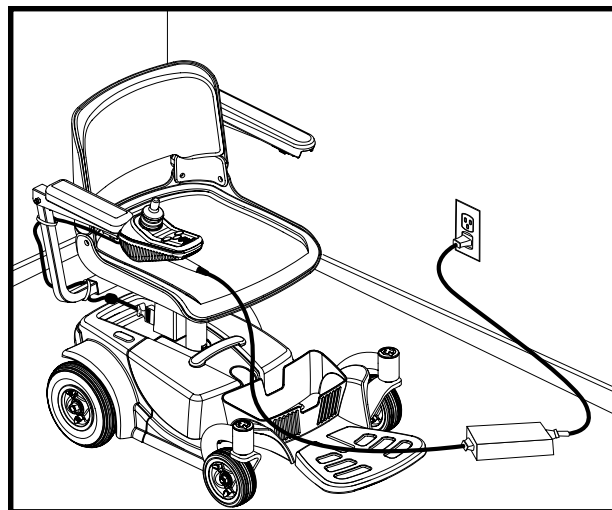

Figure 23. Battery Charging (Battery Box Installed)
1. Position your Z-Chair next to a standard wall outlet. See figure 23.
3. Plug the off-board charger into the off-board charger socket on the controller. See figure 23. Refer to VII. “Operation” for more information.
4. Plug the off-board charger into the wall outlet. See figure 23.